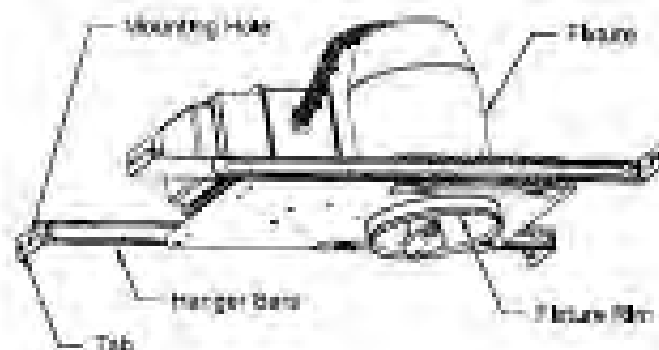

Figure 1
1. Extend adjustable length of Hanger Bars to fit between Joists. See Fig. 1 & 2.
2. BE SURE Fixture rim (See Fig. 1) is flush with proposed Ceiling line.
3. Top Hanger Bars to seal Tab (See Fig. 1) in job to temporarily secure Hanger Bars, then fasten Hanger Bars to joist with Nut through Mounting Hole (See Fig. 1) in Flange. (Mounting Hardware not provided.)